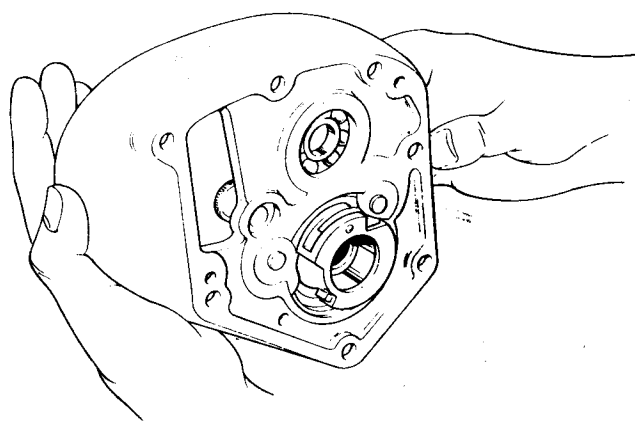

Fig. D5 Showing kickstart pawl stop on inner cover
- 2 If the kickstart spindle has been removed from the gearbox inner cover, it must be refitted at this stage. Assemble the kickstarter spindle to the inner cover, ensuring that the pawl is behind the stop on the inner cover as shown in Fig. D5.